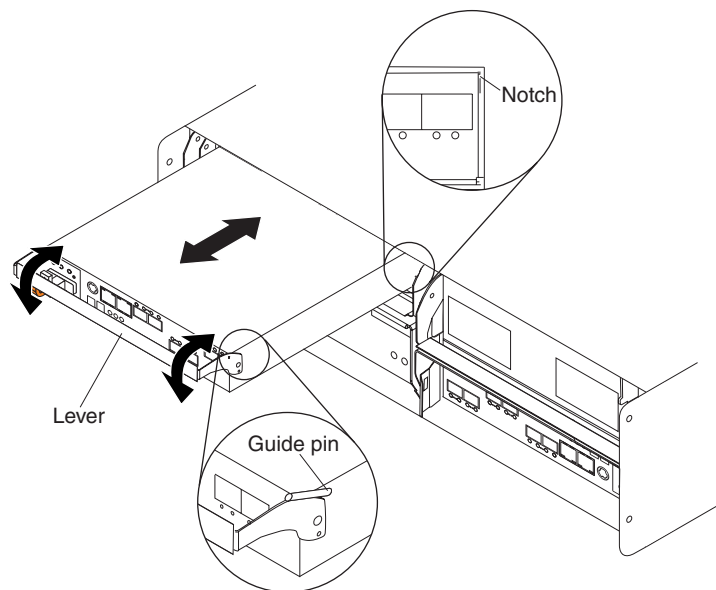

Figure 21. Removing and replacing a controller
1. Slide one controller into the empty slot in the storage subsystem. Be sure that the lever is pulled straight out as you slide the controller in, as shown in Figure 21.